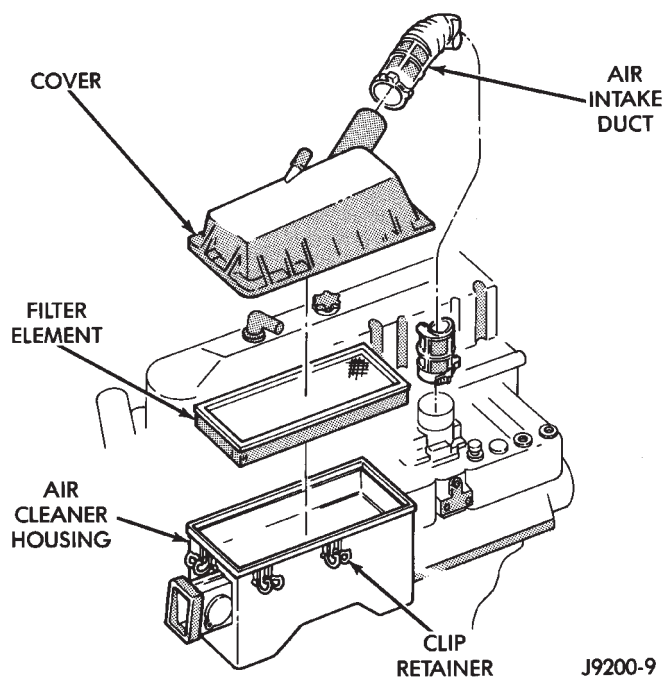

Fig. 10 Air Cleaner Body/Housing & Cover
(3) Clean filter element by gently blowing the trapped particles from the filter with compressed air. Direct air in the opposite direction of normal intake air flow. Keep air nozzle at least two inches away from the filter to avoid damage to filter.
(4) If the filter has become partially saturated with oil, replace the filter. Test the crankcase ventilating (CCV) system for proper operation.
(5) Wash the air cleaner cover and body/housing (Figs. 10) with cleaning solvent and wipe dry.